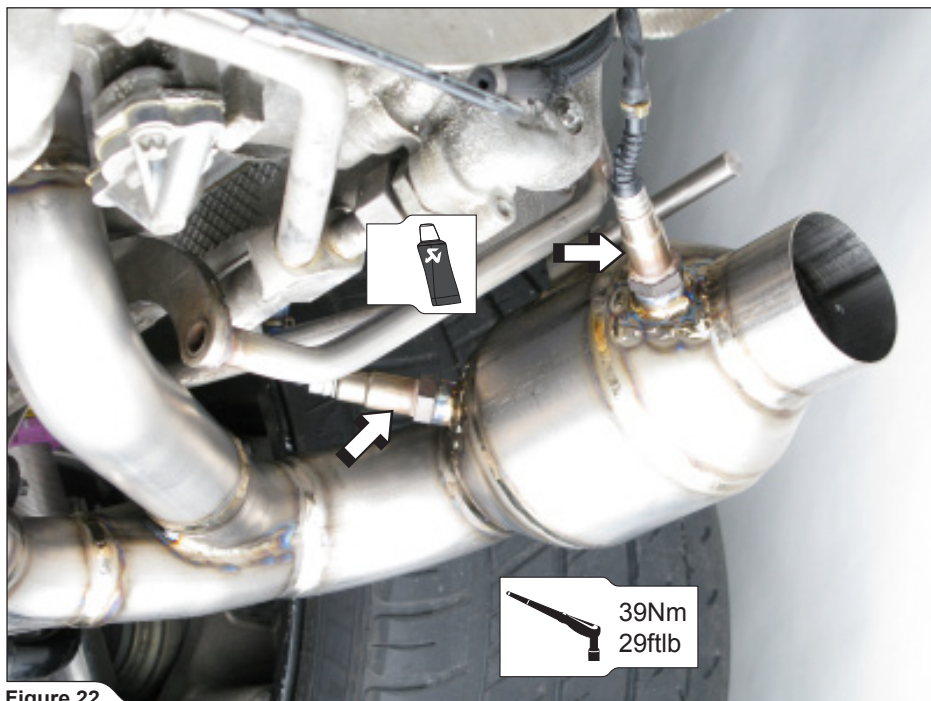

Figure 22
4. **For Evolution and Evolution-Race:** install all four lambda sensors on both sides of the vehicle (Figure 22).